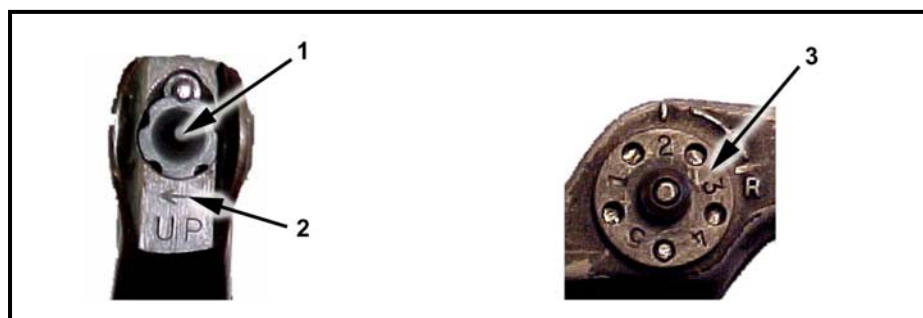

Figure 2-2. M16A1 rifle mechanical zero.
(1) **Mechanically Zeroing the M16A1.** Mechanically zeroing the M16A1 (Figure 2-2) is only necessary when the weapon zero is questionable, the weapon is newly assigned to the unit, or the weapon sights have been serviced. If necessary, the soldier should mechanically zero the weapon as follows: